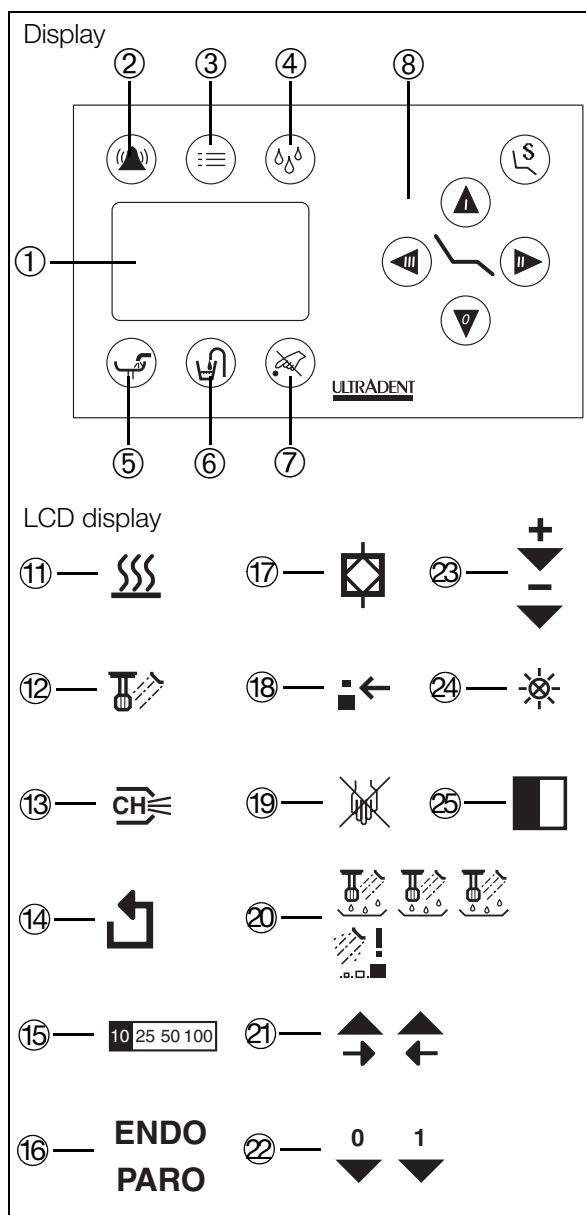

Fig. 31
The four areas across which continuous adjustment on the control unit is possible can be pre-selected on the control unit. The relevant range is displayed on the control panel as a percentage of the maximum adjustment range ⑮ (Fig. 31). The setting is then retained even after the instrument is put back into the holder and taken out again.
The relevant value ⑮ (Fig. 31) is displayed on the screen.
To change the intensity of the light, remove the turbine hose from its holder and then press the menu key ③ (Fig. 31). The sub-menu then appears.
- Keep tapping on the right-arrow ⑮ (Fig. 31) touch key until the symbol ⑮ (Fig. 31) appears.
- By tapping several times on the two touch-keys marked with the symbols ⑮ (Fig. 31), the intensity can be changed incrementally.
- Once the required intensity has been set, you return to the main menu by tapping on the ③ (Fig. 31) key.